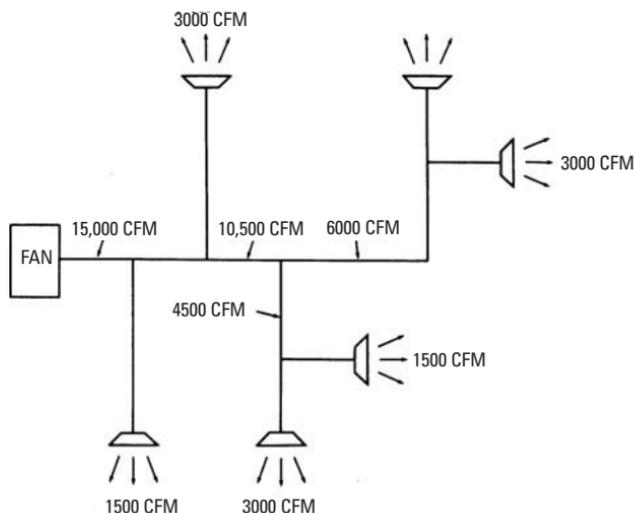
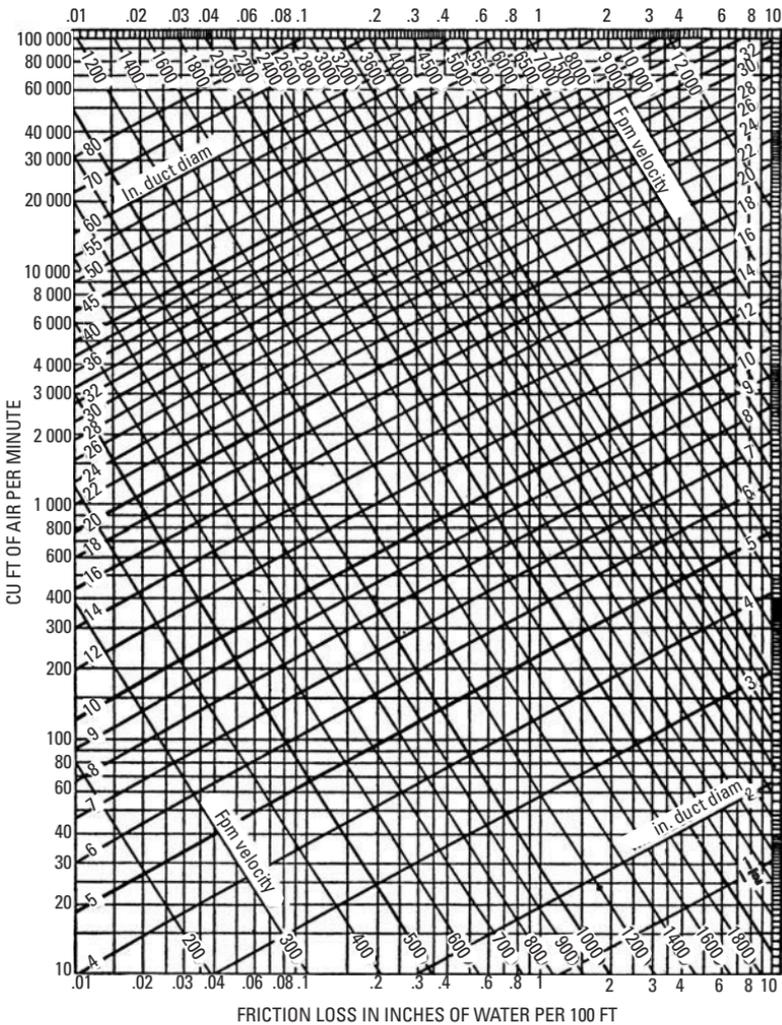

Figure 7-22 Air velocities of a duct system.
Figure 7-23 Friction of air in ducts.
5. Determine the design and location of the duct runs (supply, branch, and return runs) (see Figure 7-22) and then locate the supply air outlets and return air openings for each room to give the most uniform distribution of air. Each outlet should be selected for suitable air velocity and throw (the manufacturer's catalog will provide the necessary data).
8. Determine the static pressure drop from Figure 7-23. Since the supply duct must carry 15,000 CFM, locate 15,000 on the vertical scale on the left side of the friction chart in Figure 7-23. This will be found a little over halfway between 10,000 and 20,000 on the scale. Draw a line horizontally across the chart to where it intersects at a point halfway between the diagonals representing 1200 and 1400 fpm (that is, 1300 fpm). This gives a static pressure drop for the main duct of approximately 0.04
9. Use Figure 7-23 to compute the round duct diameter for each branch duct. For example, branch No. 10 in Figure 7-22 will have a diameter of approximately 19 inches. This is determined by finding the 1500 CFM on the left-hand column of the chart in Figure 7-23 (halfway between 1000 and 2000 CFM) and
12. After the duct sizes have been determined, it is necessary to compute the external static pressure of the system so that a suitable fan can be selected which will handle the required volume of air (in this case 15,000 CFM) against the total static pressure of the system. In the equal friction method, the total external static pressure drop of the system is obtained by calculating the external static pressure for the duct run having the highest total resistance. For the duct system shown in Figure 7-22, this can be obtained by adding the total length of the main supply duct from the point where the air enters the system (that is, duct sections numbered 1–6) *and* the equivalent straight pipe length of all elbows and transitions. This total length figure is then multiplied by the 0.04 inch static pressure constant (see step 9) to obtain the *total* resistance (that is, the total *external* static pressure drop) for the duct system. If, for example, the total length of duct was found to be 406 feet, the total resistance would be 0.1624 inch (406 ft ÷ 100 ft = 4.06 ft × 0.04 = 0.1624 in).